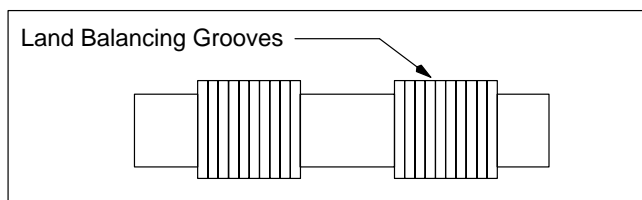

Figure 20. Spool Balancing Grooves
- If a new spool is installed into a new or used body, break the feathered edges of the spool balancing grooves with a three or four cornered India stone. See Figure 20. Lightly polish the spool with #500 grit paper. Wash the spool in clean solvent. Repeat steps A and B.